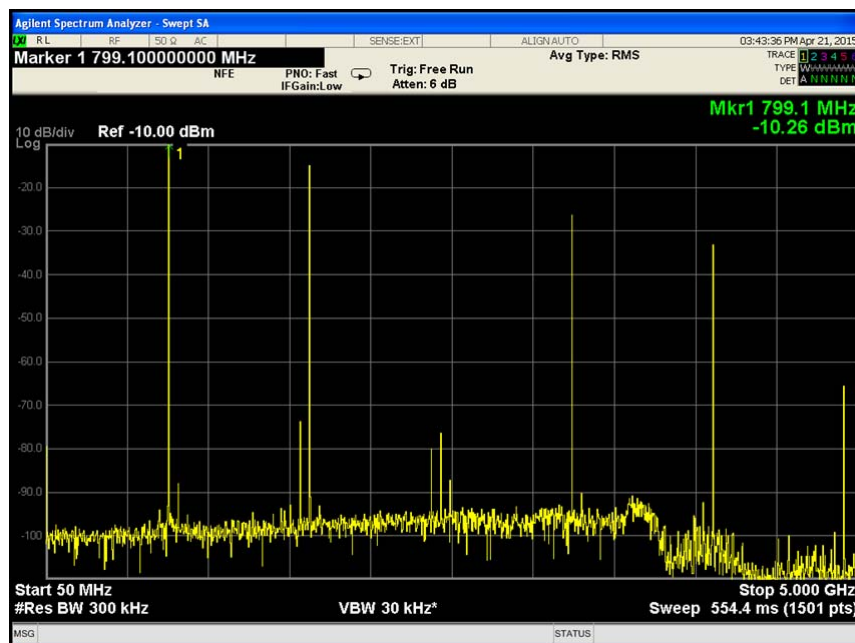

Figure 18. Spectrum Analyzer plot of DAC output in JESD 8-lane, 1x mode, showing single tone at 800 MHz
7. An 800 MHz single tone should now appear on the spectrum analyzer as shown in Figure 18.